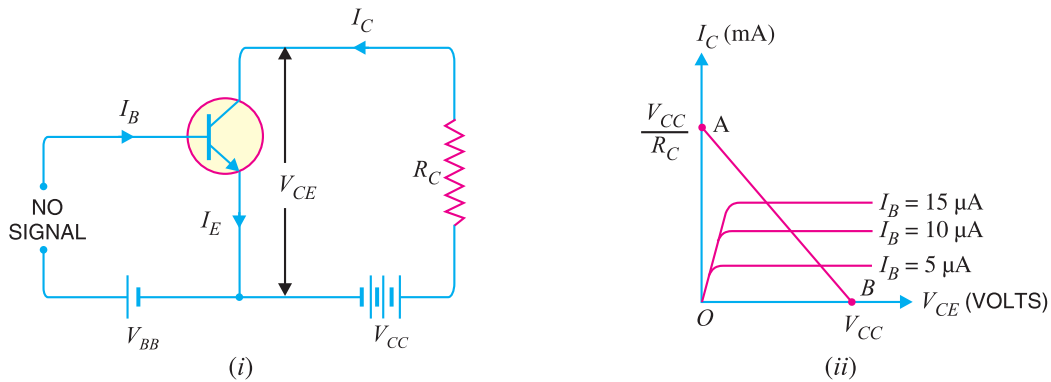

Fig. 8.35
d.c. load line. Consider a common emitter *npn* transistor circuit shown in Fig. 8.35 (i) where no signal is applied. Therefore, d.c. conditions prevail in the circuit. The output characteristics of this circuit are shown in Fig. 8.35 (ii).
This gives the first point B ($OB = V_{CC}$) on the collector-emitter voltage axis as shown in Fig. 8.35 (ii).
This gives the second point A ($OA = V_{CC}/R_C$) on the collector current axis as shown in Fig. 8.35 (ii). By joining these two points, d.c. *load line AB is constructed.